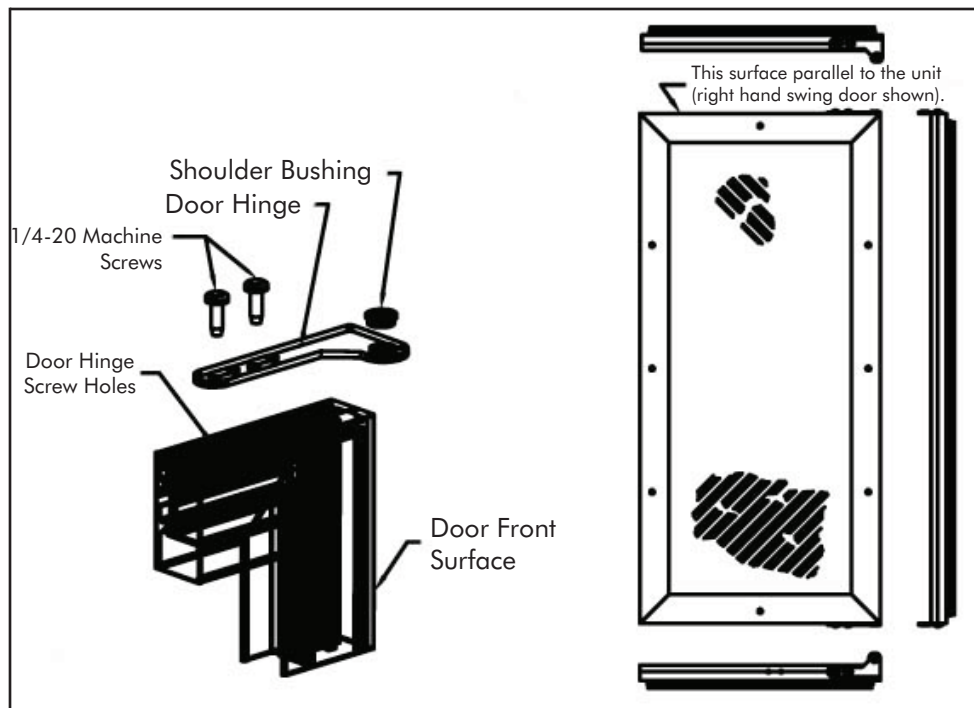

Figure 1: Typical Top and Bottom Door Hinge Assembly
1. Attach the top and bottom door hinge bushing brackets to the door with the 1/4-20 machine screws and a 5/32 inch Allen head driver as shown in Figure 1.
2. Press in the shoulder bushings to the top and bottom door hinges. Make certain that the shoulder is to the outside of the door as shown in Figure 1.